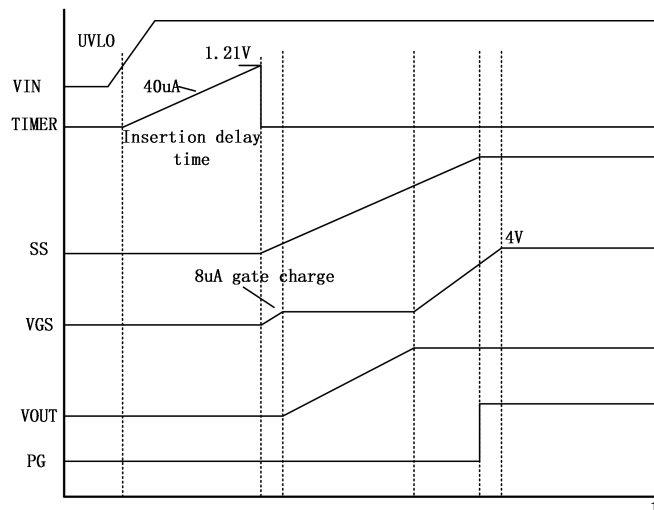

Figure 28. Startup Sequence
the UVLO threshold, TIMER will charge the external capacitor (C_T) through a $40\mu\text{A}$ constant current source (see Figure 28). When the TIMER voltage reaches 1.21V , the insertion delay ends. The capacitance value of C_T can be determined by formula (3):